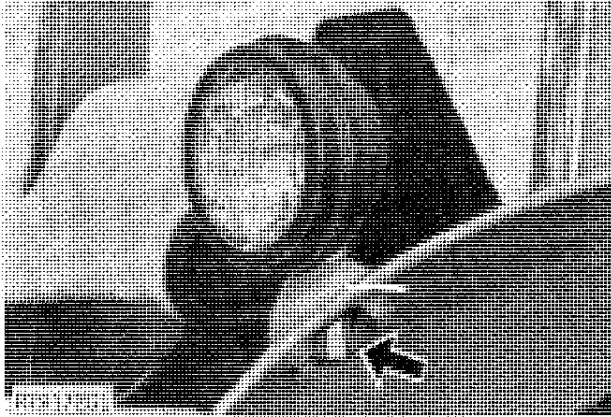

Fig. 7-Head Lamp Adjusting Nut
6. Adjust lamp assemblies as necessary. Loosen adjusting nut (Fig. 7) below each lamp and rotate lamp housing according to above specifications.